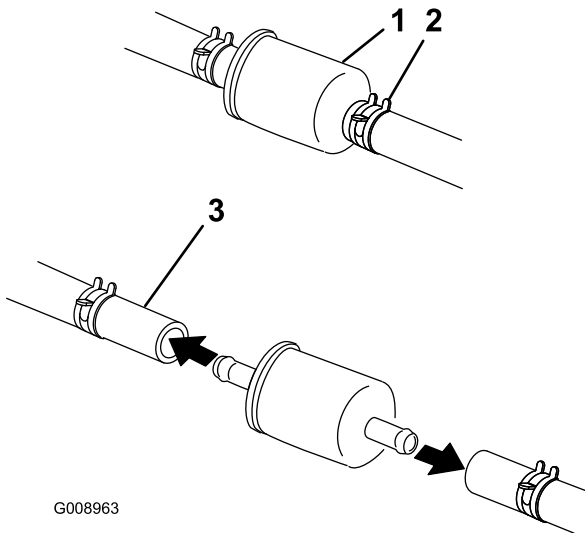

Figure 50
3. Clean around the fuel cap to prevent debris from getting into the fuel tank (Figure 50).
4. Squeeze the ends of the hose clamps together and slide them away from the filter (Figure 50).